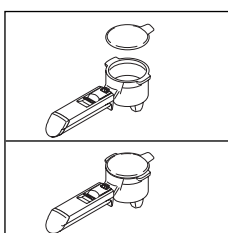

fig. 14
3. Insert a pod, centring it as far as possible on the filter (fig. 14). Always follow the instructions on the pod pack to position the pod on the filter correctly.